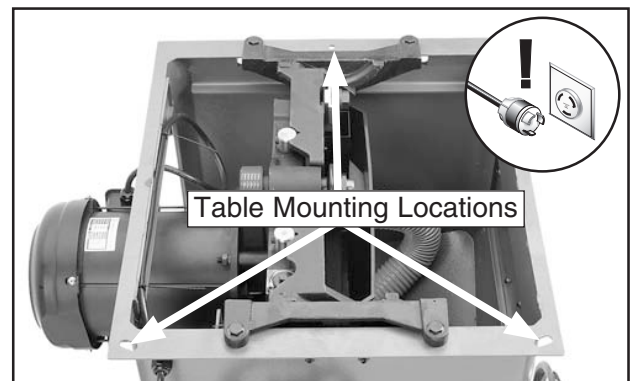

Figure 129. Table mounting bolt holes (table top removed for clarity).
7. To adjust the table, loosen the three bolts in the table mounting locations (see **Figure 129**) and lightly tap the table in the direction needed to square the table to the blade. Repeat **Steps 2–6** until the blade and miter slot are parallel. Do not forget to tighten the table mounting bolts when finished.
2. Loosen the three table mounting bolts (**Page 66, Figure 129**) and adjust the table until the blade does not contact the insert. Tighten all the mounting bolts.